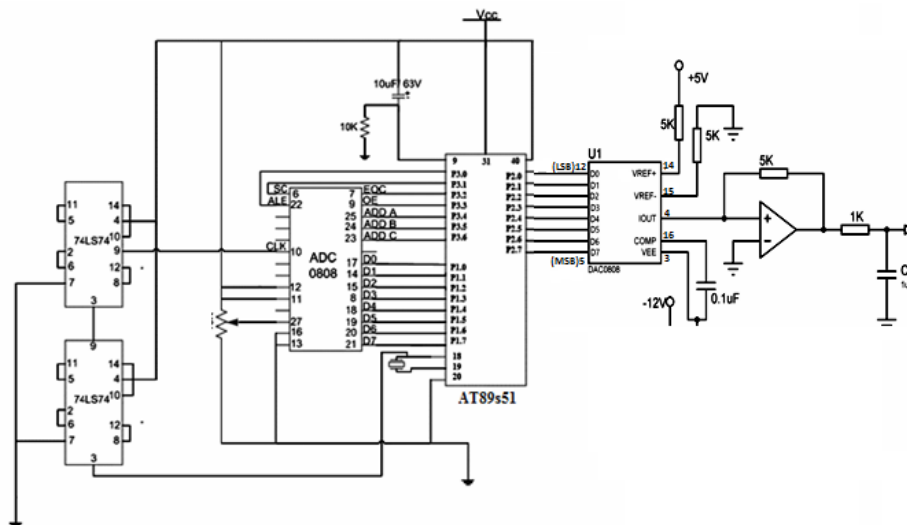

Figure 16.1: 89C51 connection to ADC and DAC 0808
8. Interface ADC and DAC to microcontroller as per circuit diagram shown in Figure.16.1.